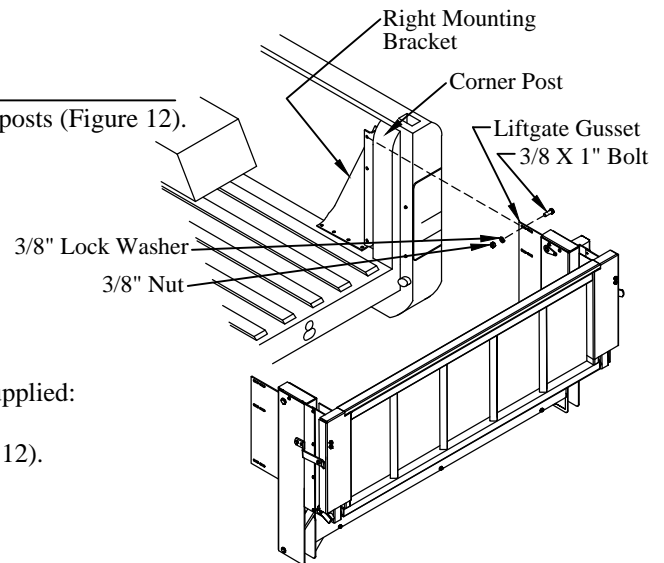

Figure 12: Mounting bracket and liftgate.
1. **Position** the mounting brackets into the truck bed in front of the corner posts (Figure 12).
- (3) 3/8"x1" hex head bolts on the bracket-side (Figure 12).
- (3) 3/8" lock washers, and (3) 3/8" nuts on the gusset-side (Figure 12).